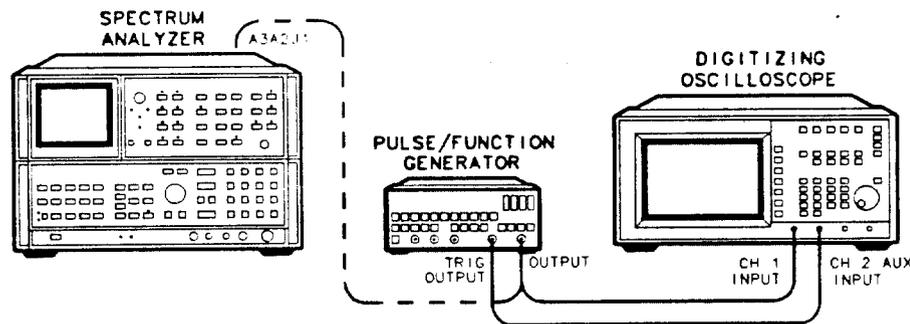

Figure 14. CRT Adjustments Setup
48. Connect the pulse/function generator's trigger output to the oscilloscope's channel 2 AUX and shown in Figure 14.